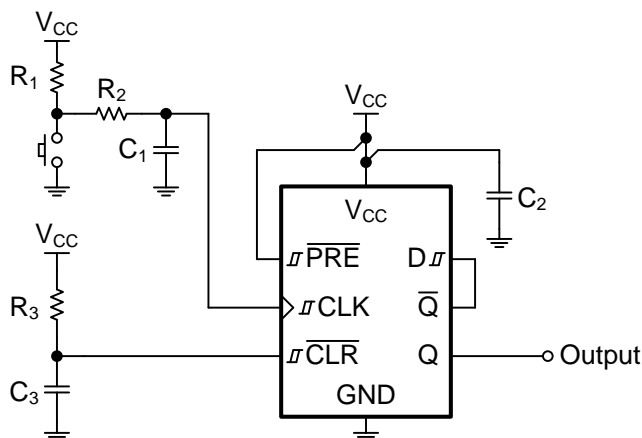

Figure 12. Device Power Button Circuit
With the SN74HCS74-Q1, a power on reset circuit only requires a resistor (R) and capacitor (C) to create a delay. The R and C values create a delay that is approximately $2.2 \times RC$. An additional Schmitt-trigger input device would be required to allow this slow rise if the flip-flop did not have Schmitt-trigger inputs. In this application, it is desired to have the output (Q) in the LOW state at startup, so R_3 and C_3 are connected directly to the \overline{CLR} pin, as shown in Figure 12.